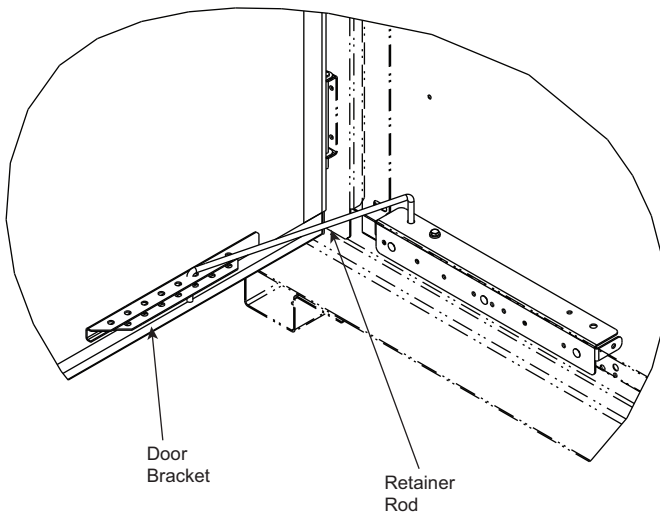

Fig. 5 – Access Door Retainer
3. Rotate the retainer rod toward the door bracket. See Fig. 5 for door bracket and retainer rod locations.